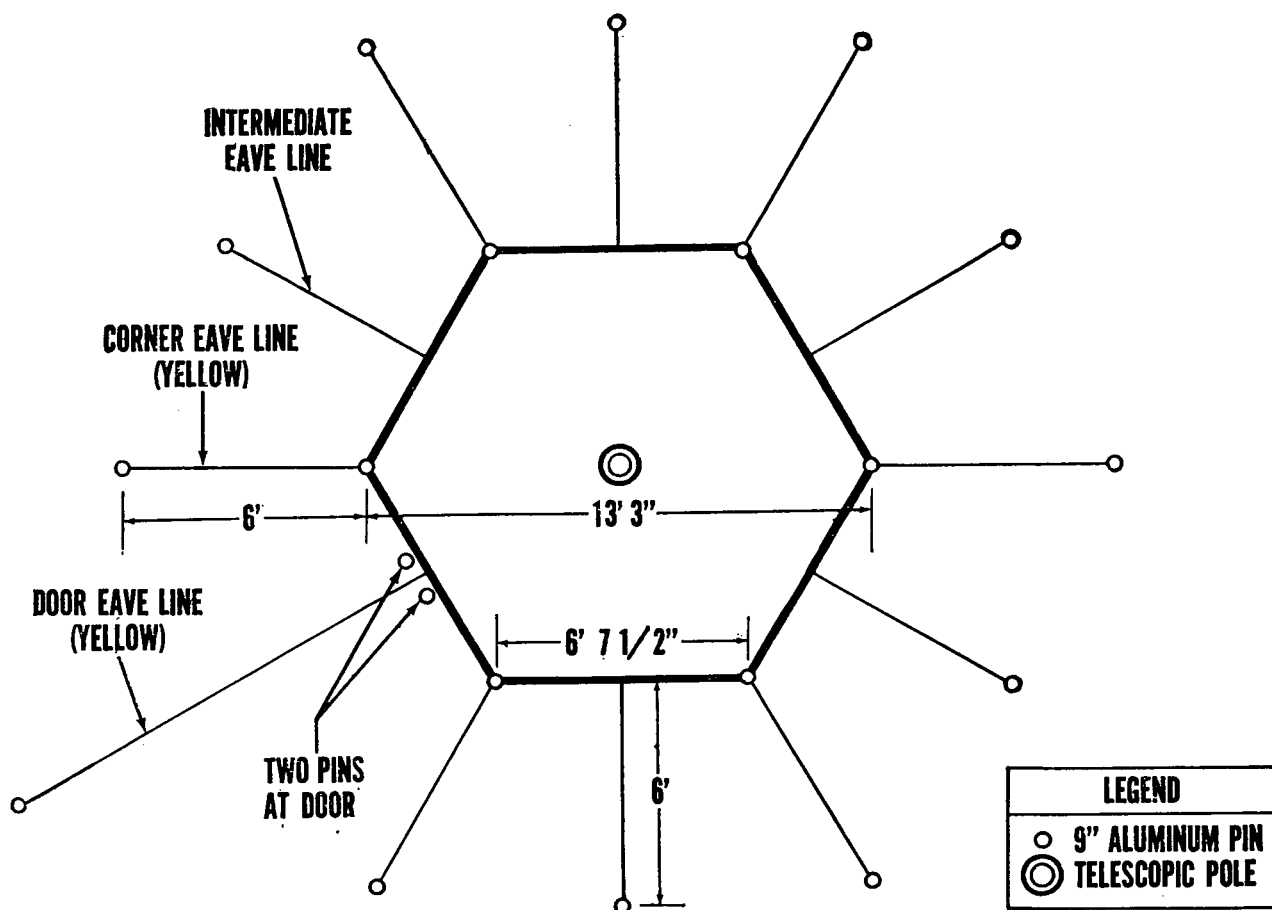

Figure 36. Ground plan of tent, hexagonal, lightweight, M-1950.
c. Ground Plan. Before pitching the tent, study the ground plan carefully (fig 36).